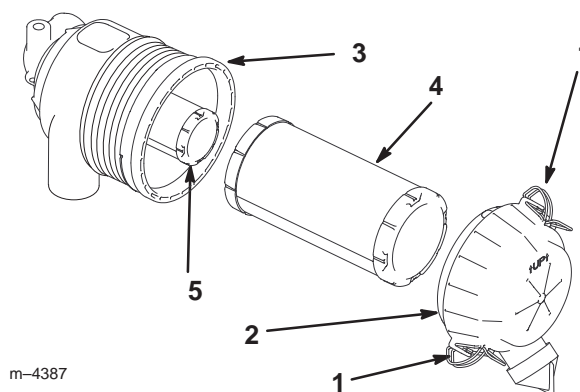

Figure 24
3. Release the latches on the air cleaner and pull the air cleaner cover off of the air cleaner body (Fig. 24).
5. Gently slide the primary filter out of the air cleaner body (Fig. 24). Avoid knocking the filter into the side of the body. Do not remove the safety filter, unless you intend to replace it as well.
2. If the safety filter is being replaced, carefully slide it into the filter body (Fig. 24).
3. Carefully slide the primary filter over the safety filter (Fig. 24). Ensure that it is fully seated by pushing on the outer rim of the filter while installing it.
4. Install the air cleaner cover with the side indicated as UP facing up and secure the latches (Fig. 24).